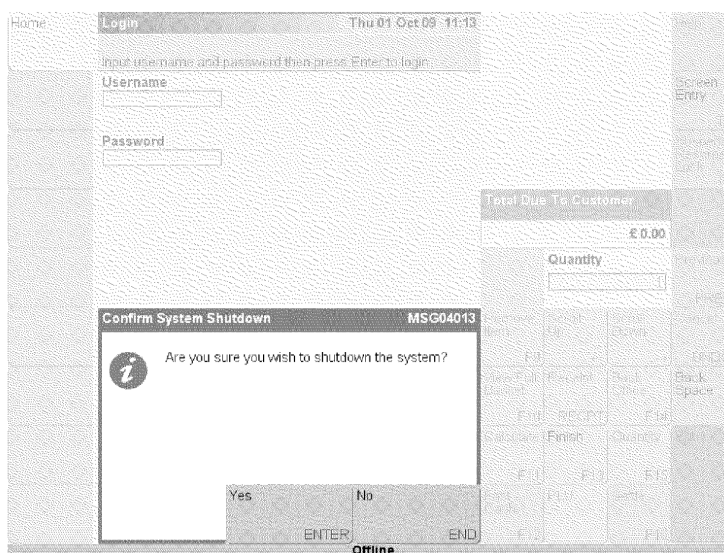

Figure 6
- 6) Press “Shutdown or keyboard 84. The system will ask if you are sure you wish to shut down. Press “Yes” and the system will then shut down. (See figure 6 below)